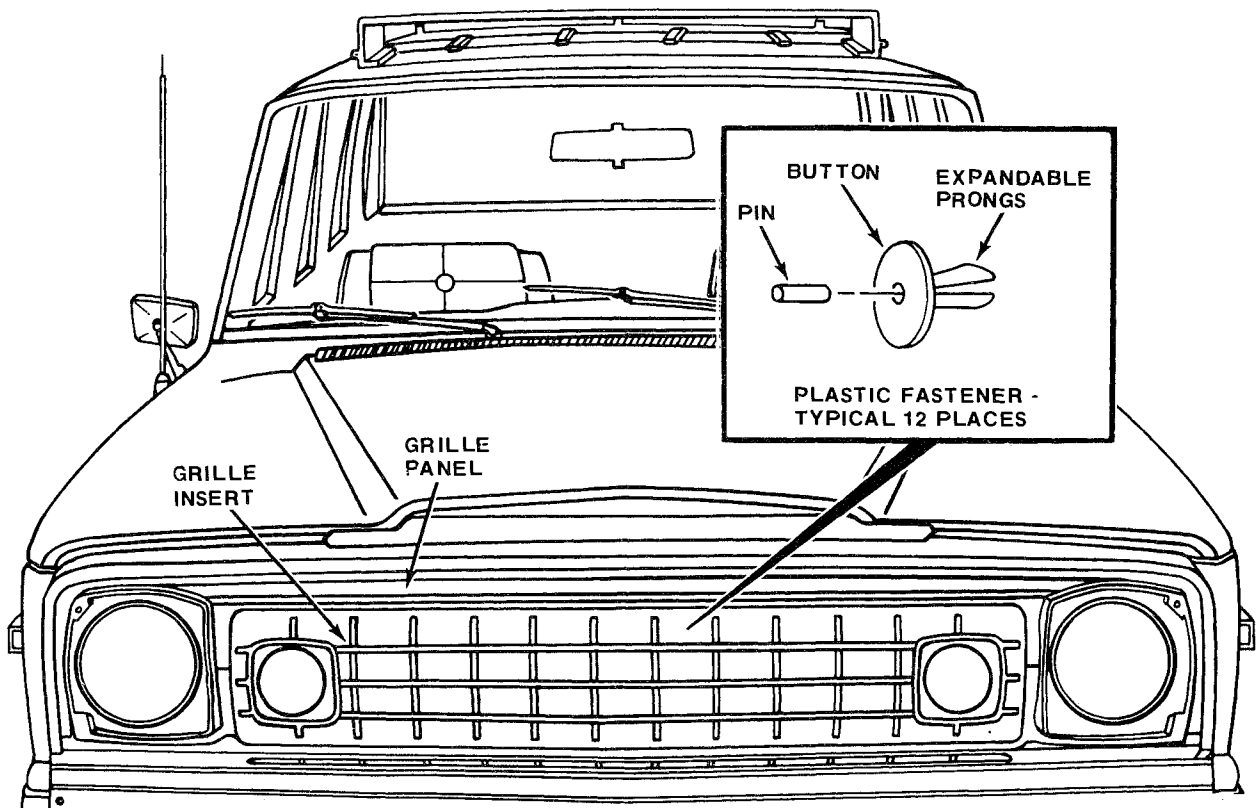

Fig. 3F-11 Grille Insert and Fasteners—Wagoneer
- (1) Remove headlamp doors and disconnect headlamp wiring at sealed beam unit.
- (2) Remove parking lamp assemblies on Wagoneer Models.
- (3) Remove screws, bolts, and washers attaching grille panel to front end sheet metal (fig. 3F-10).
- (4) Remove grille panel.